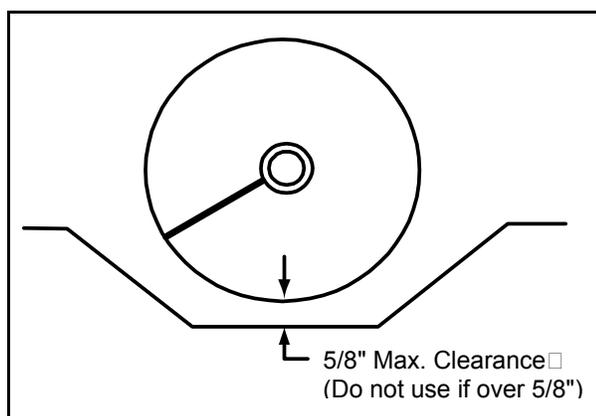

Figure 4F
**Note:** If there is more than 5/8" gap between the bottom pan and the outer edge of the flighting, do not use a sensor in that location. Use another location, such as a take-away auger. (See Figure 4F).